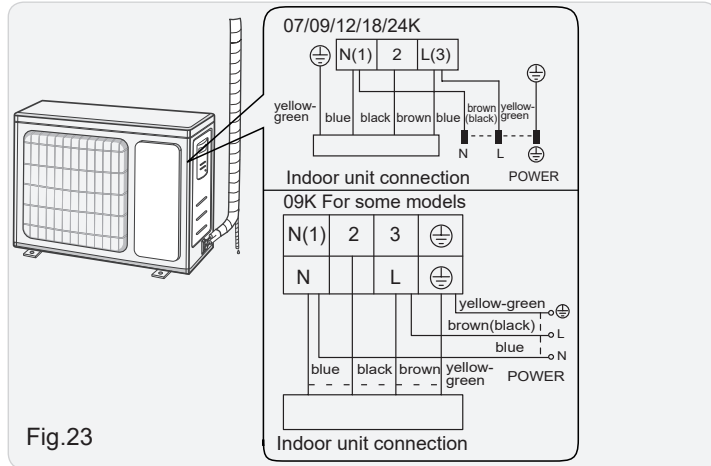

Fig.23
(1) Remove the wire clip; connect the power connection wire and signal control wire (only for cooling and heating unit) to the wiring terminal according to the color; x them with screws.(As show in Fig.23)